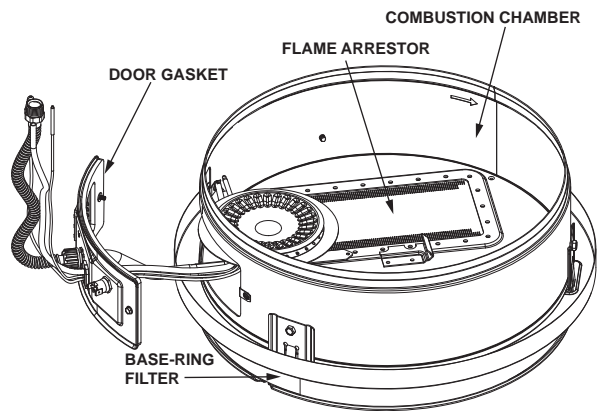

FIGURE 29.
1. At least annually check the base-ring filter (Figure 29) for any dust or debris that may have accumulated on the filter screen. NOTE: If the water heater is located in an area that is subjected to lint and dirt, it may be necessary to check the base-ring filter more frequently.
2. Use a vacuum cleaner/shop vac to remove all loose debris in the combustion chamber (Figure 29). Use compressed air to clear any dust or debris that may have accumulated in the flame-arrestor.